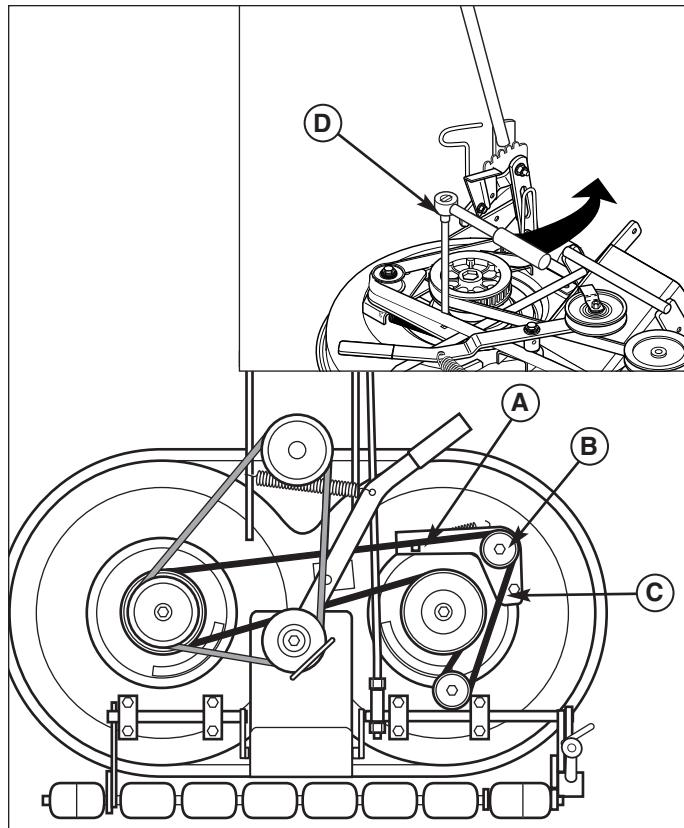

Figure 25. Mower Belt Tension
3. Loosen the idler assembly capscrew (B, Figure 25).
4. Using a 3/8" drive ratchet and extension (D), move the spring-loaded idler assembly (A) to relieve tension on the belt (C).
5. Remove the belt (C) and inspect it for cracks, missing teeth and wear. Replace belt if worn or damaged.
6. Reinstall the belt (C). Releasing the idler assembly (B) allows the spring to automatically tension the cogged belt.
7. Tighten the idler assembly capscrew (B) and reinstall the belt covers.